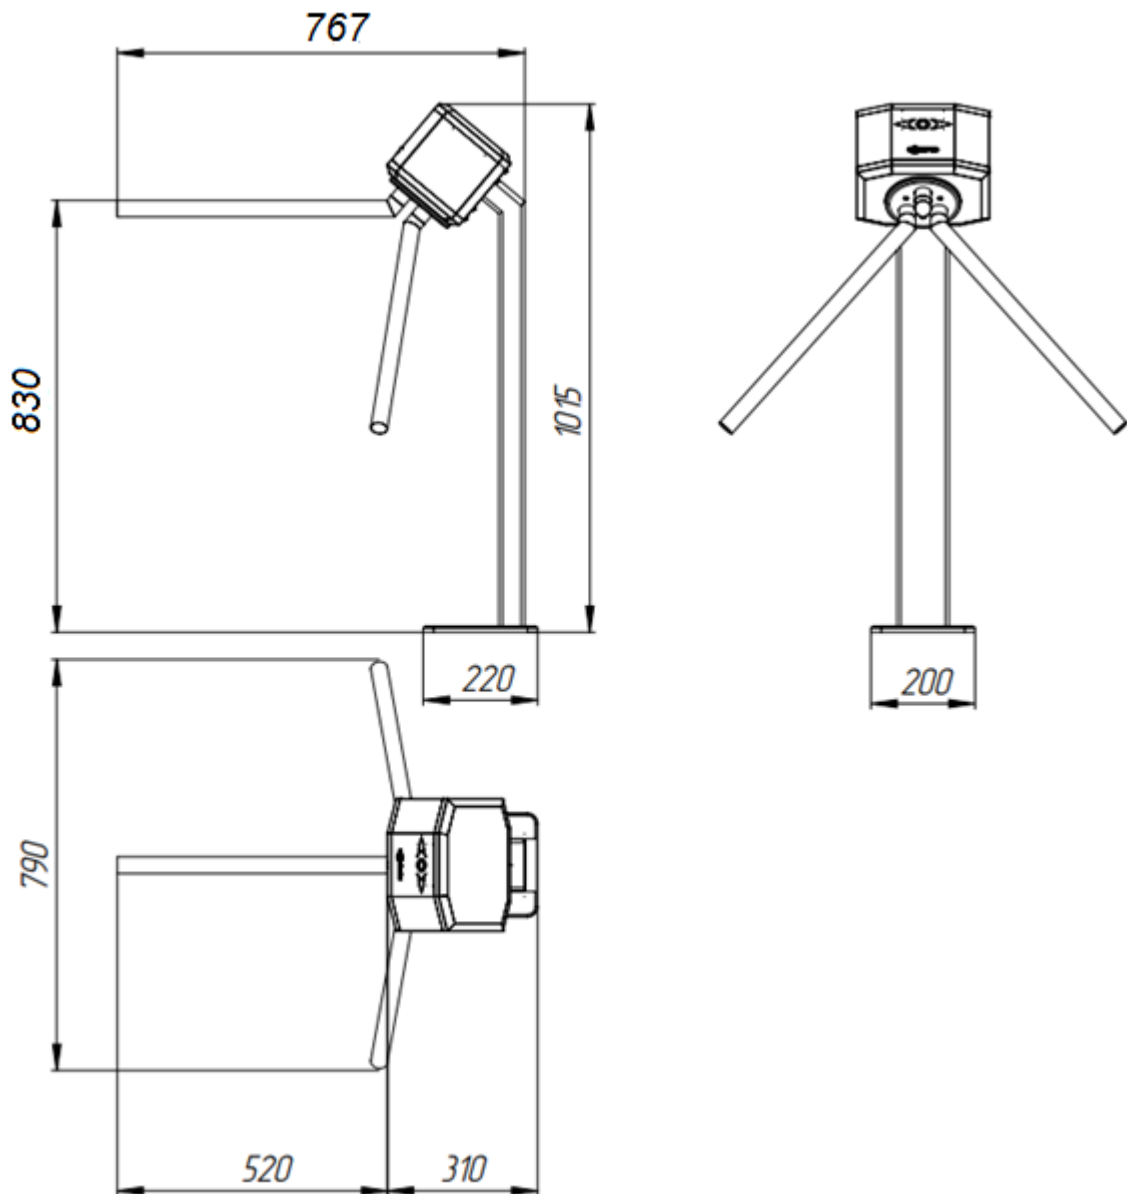

Figure 1 – Overall dimensions of the turnstile
3.3.4 Figure 1 – overall dimensions of the turnstile.